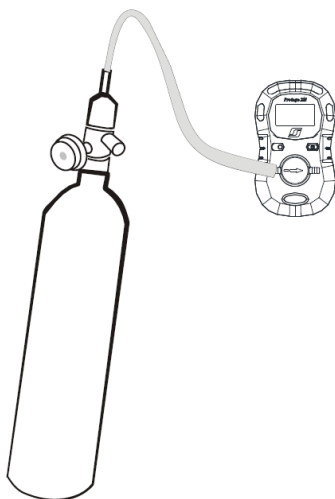

Figure 5-1: Attached gas cylinder
7. Attach the Calibration Adapter to the monitor and apply gas, as presented in Figure 5-1.